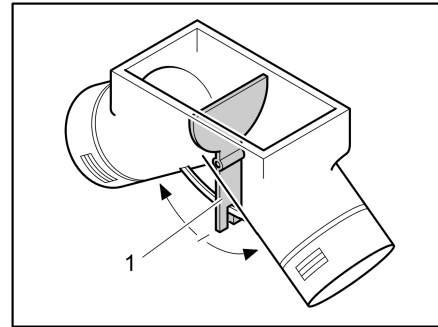

Fig. 111 Circulation fan, adjustment flap in central position
In the central position the warm air is distributed evenly to each warm air outlet. The operating lever (Fig. 111,1) for the adjustment flap is located under the base flap in the wardrobe.
- Push the operating lever (Fig. 111,1) in the direction of the arrow until the required position has been reached.